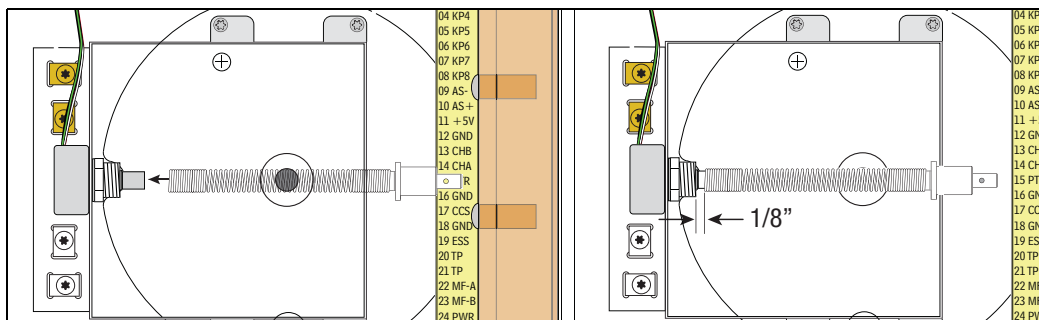

Figure 2. Pushing Encoder Spring Onto Pulse Encoder Shaft
3. With the Encoder Spring/Input Shaft assembly in one hand, push the open spring end onto the pulse encoder's shaft. Work the spring onto the shaft until it is about 1/8" from the pulse encoder (Figure 2).